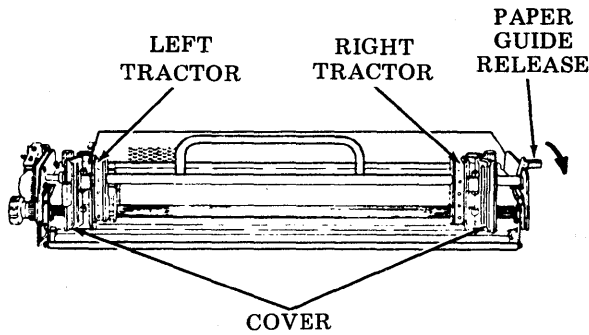

Fig. 52—Guides and Tractors
- (a) Release paper guides and open tractor covers (Fig. 52).